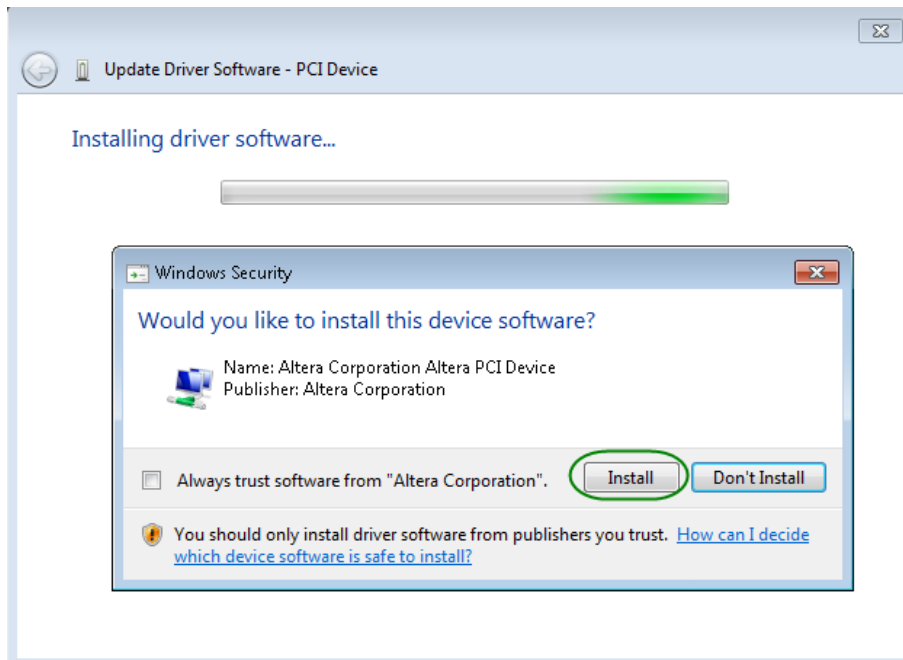

Figure 6-6 Click Install in the dialog of Windows Security
- When the **Windows Security** dialog appears, as shown **Figure 6-6**, click the **Install** button.